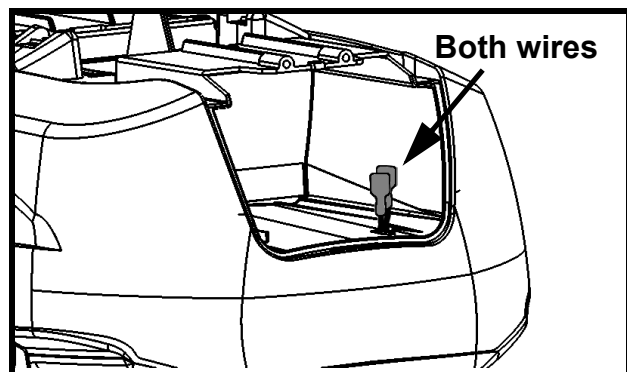

Fig. 7
- 9) Remove the bottom shell by routing the battery wires, the strap and the emergency cord through their respective openings (see Fig. 7).